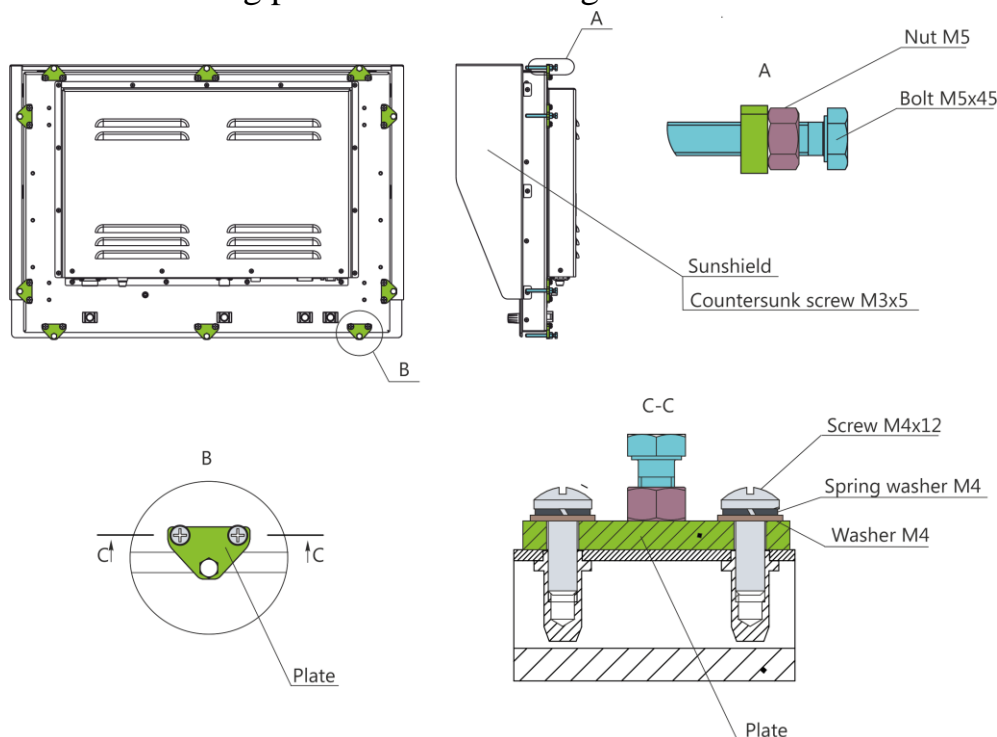

Figure 4 – Panel mounting with inside fasteners
2) Panel mounting with inside fasteners (see figure 4) ensures fastening from the inner panel of console using plates and a mounting kit of metal ware.